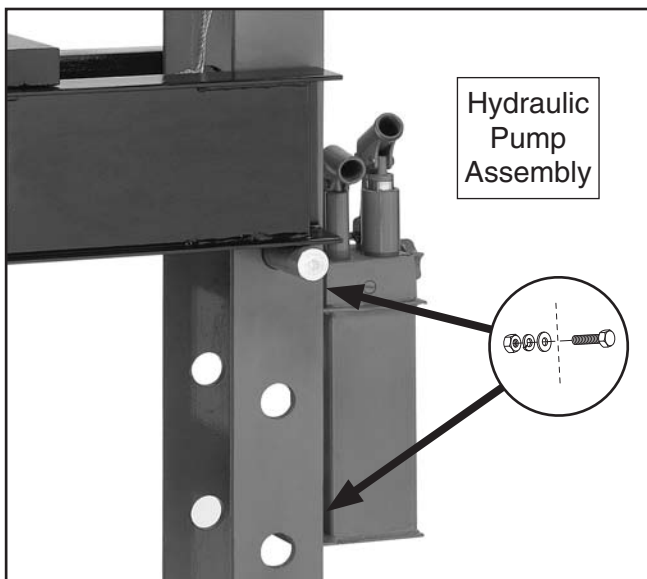

Figure 9. Pump installed.
9. Using a 19mm wrench, install the hydraulic pump shown in **Figure 9** to the U-beam with two M12-1.75 x 35 hex bolts, and 12mm flat washers, lock washers, and hex nuts.